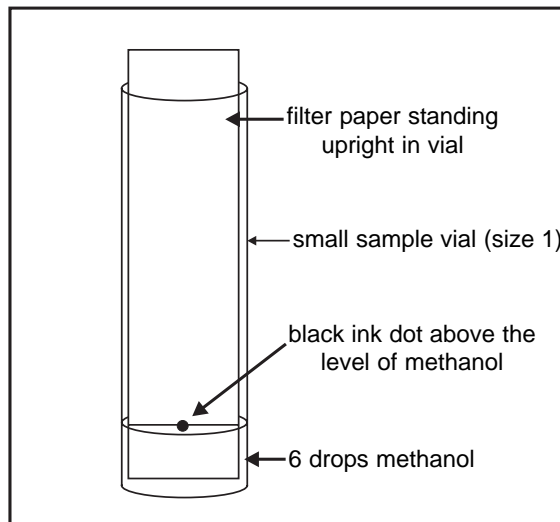

FIGURE 2
3. Carefully insert the filter paper into the sample vial so that the small ink dot on the filter paper is just above the methanol in the vial (see figure 2). (See Questions 1, 2)
- Q4. What is the name given to the combination of the two atoms of substance A (See Figure 2)?